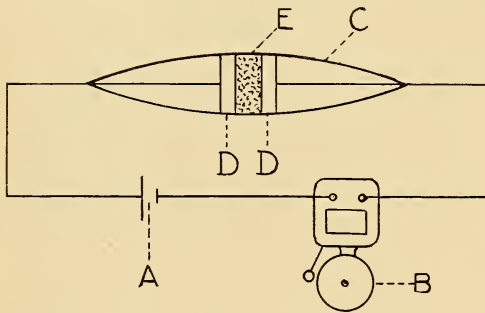

FIG. 3. BRANLY'S COHERER.
Branly is given the credit for first discovering that a loose mass of iron filings, when brought in close proximity to the discharge of a leyden jar or other high frequency discharge, will cling together, or cohere, and thereby lower the resistance of the mass as a whole, allowing the current from a battery to more easily flow through the mass when the particles are in coherence than when they are not. The filings may be placed in a tube and form part of a circuit to an electric bell or other indicating device. Branly's original plan is shown in Fig. 3, in which (A) is the battery, (B) the bell, (C) a glass tube, (D-D) silver pole pieces with metal filings (E) between. In order to stop the bell from ringing it was necessary to tap the tube with a pencil which would "decohere" the filings, and this would increase the resistance so that enough current would not flow through to actuate the bell.